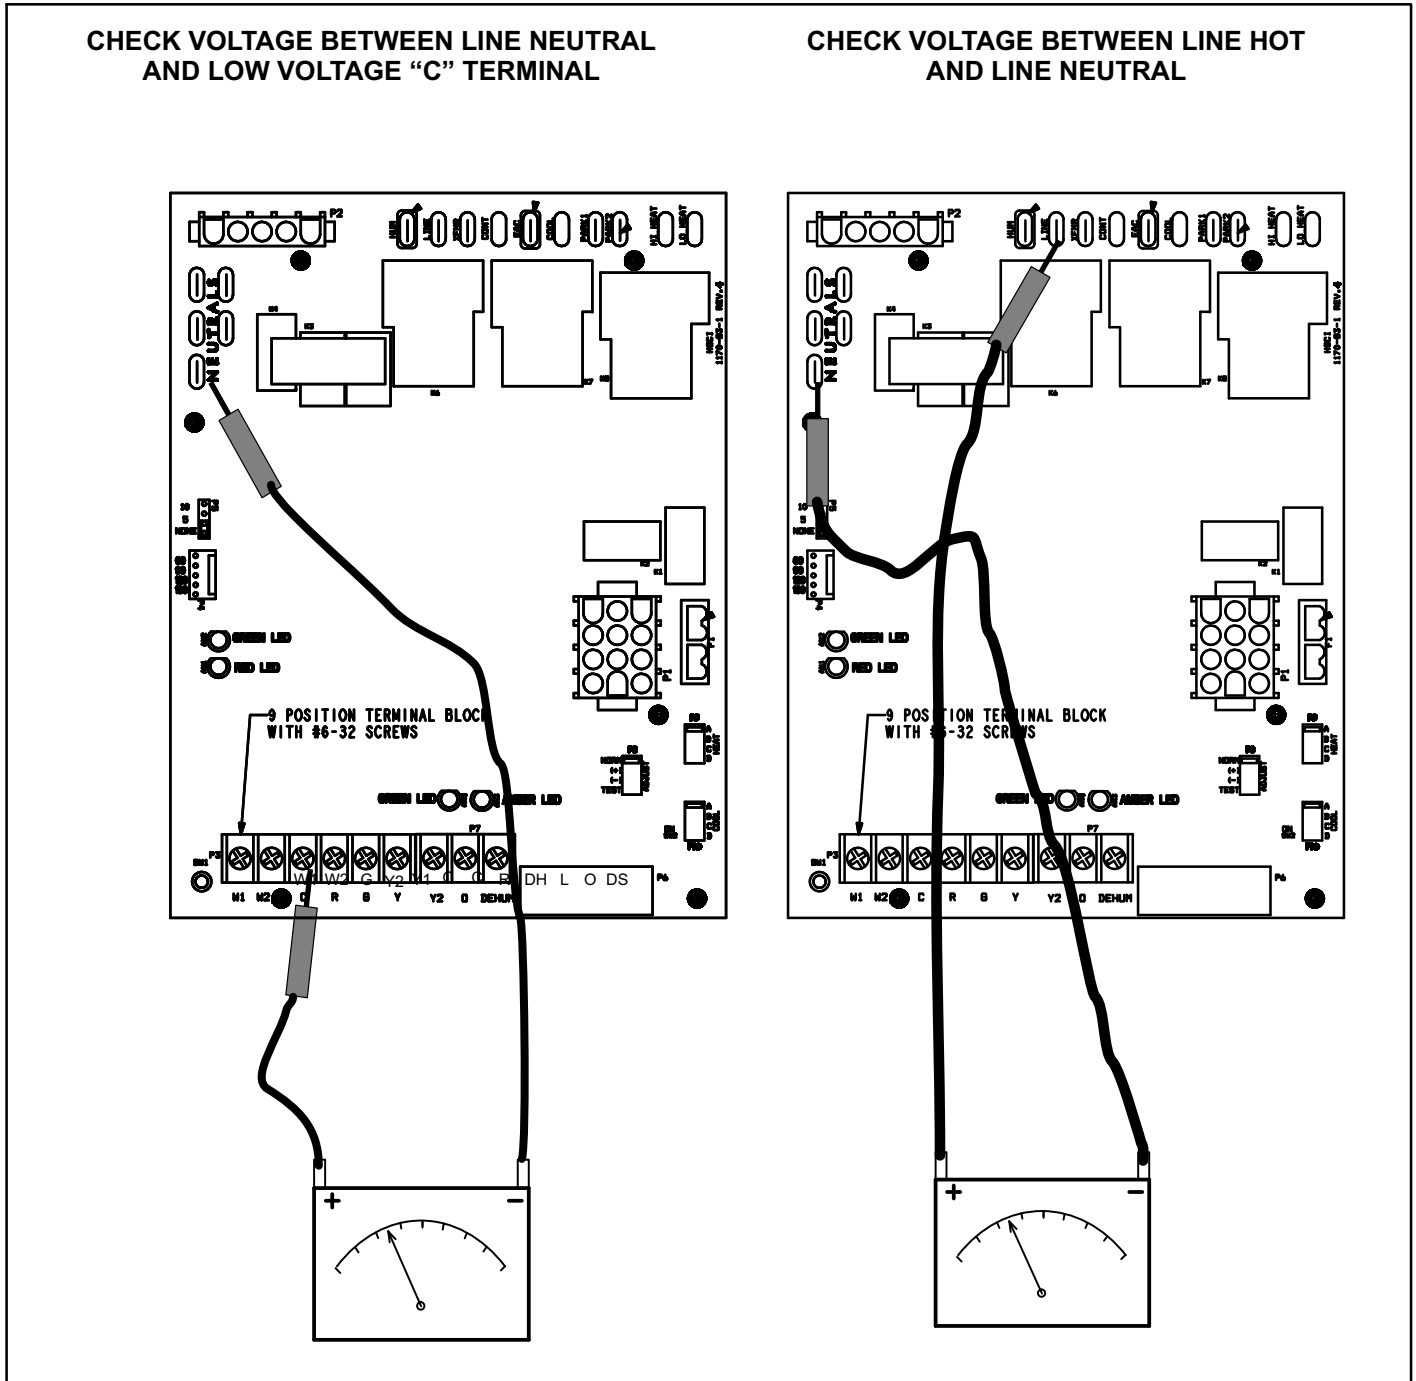

FIGURE 52
- 1 - Measure the AC voltage between Line Neutral (spade terminals) and "C" terminal (low voltage terminal block) on the integrated control. See figure 52. A wide variation in the voltage between Line Neutral and "C" as a function of load indicates a poor or partial ground. Compare the readings to the table below. If the readings exceed the maximum shown in table 1, make repairs before operating the furnace.
- 2 - In addition, measure the AC voltage from Line Hot to Line Neutral (spade terminals) on the integrated control. See figure 52. This voltage should be in the range of 97 to 132 Vac